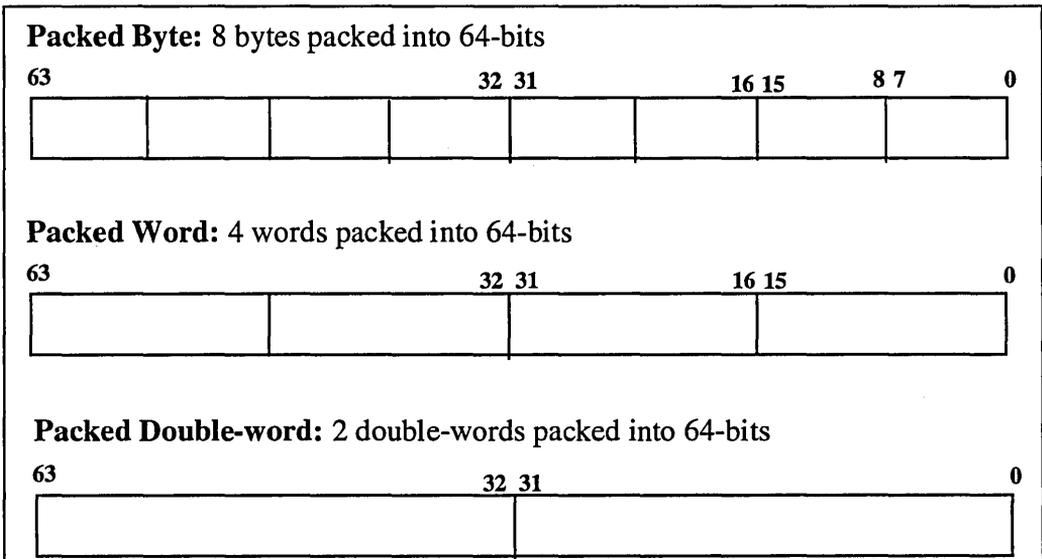

Figure 1-1. New Data Types
Intel's MMX™ technology is an extension to the Intel Architecture (IA) instruction set. The technology uses a single instruction, multiple data (SIMD) technique to speedup multimedia and communications software by processing multiple data elements in parallel. The MMX instruction set adds 57 new opcodes and a new 64-bit quadword data type. The new 64-bit data type, illustrated in Figure 1-1 below, holds packed integer values upon which MMX instructions operate.